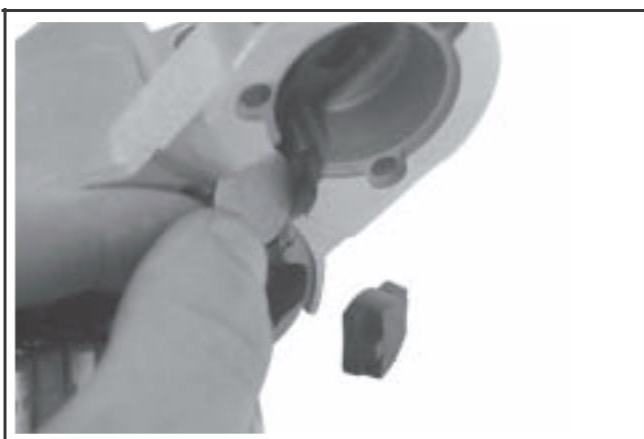

Figure 8-36. Removing Pivot Bushing and Backing Plate.
7. Remove the drive lever pivot bushing and backing plate from the end cap. See Figure 8-36.